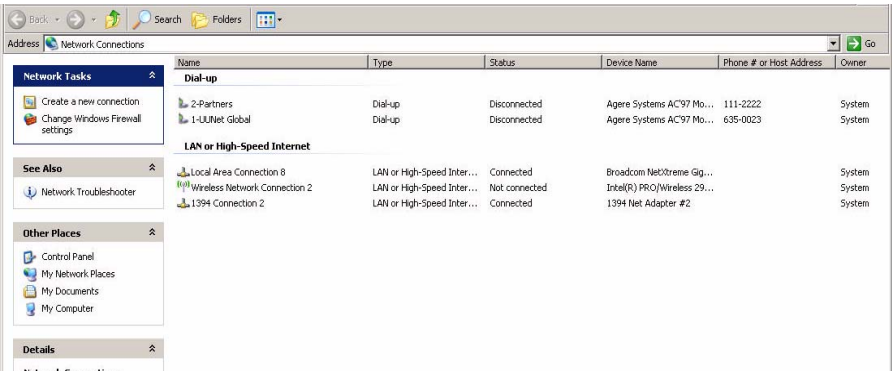

Figure 32 Network Connections Dialog Box (Windows XP, details view)
- 1 Open the '**Network Connections**' dialog from the Windows Control Panel. You can also open this dialog from the *Start > Run* box by opening '**ncpa.cpl**'. See Figure 32 below.